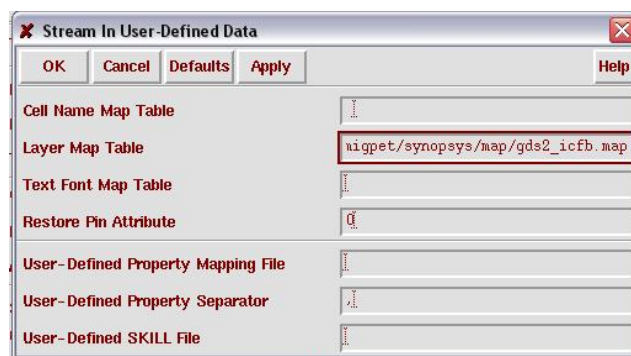

Figure 21: Layer Map Table
7. Click the *User-Defined Data* button and, in *LayerMap Table*, type (Fig 21)